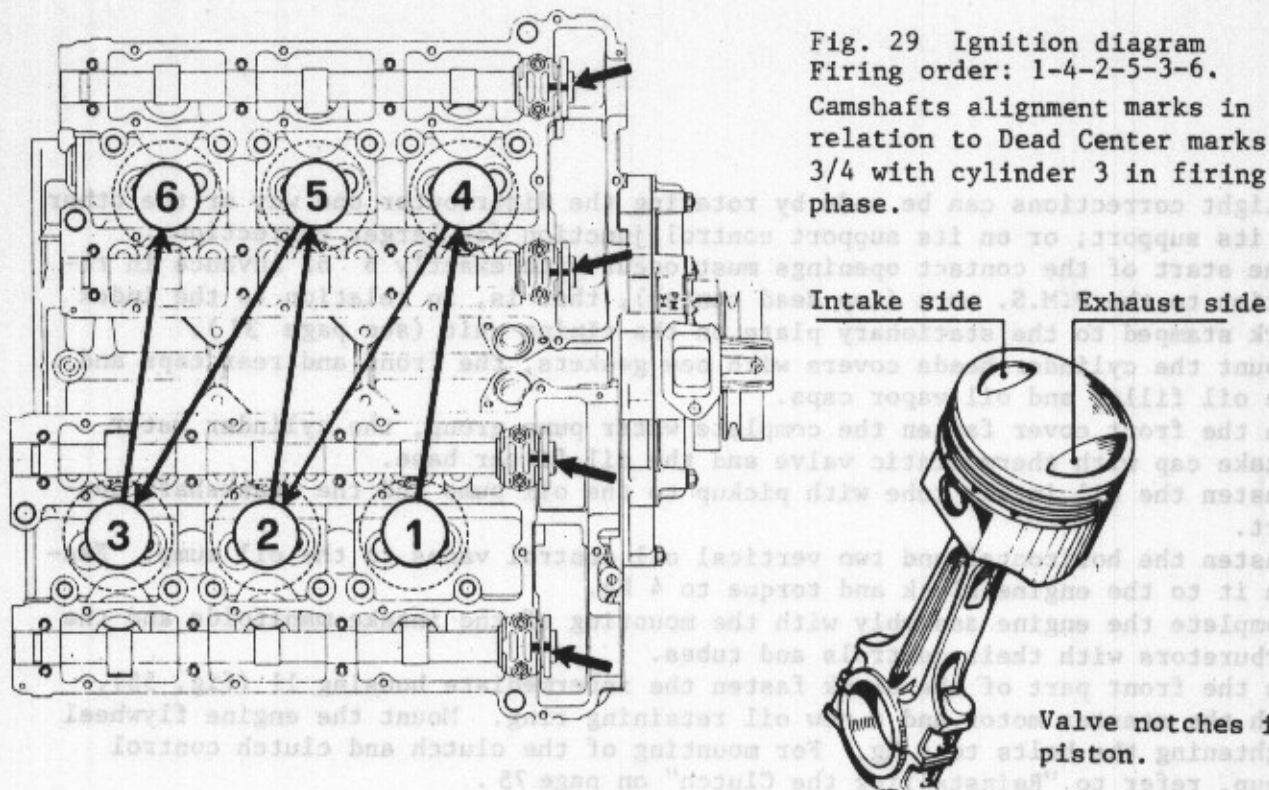

Fig. 29 Ignition diagram
-Mount in their seats the intake and exhaust camshafts of cylinder 3 with the camshaft alignment marks in exact alignment to the index marks stamped on the front support caps. Mount all caps to the other support and torque them to 3.3 Kg. (fig. 29).